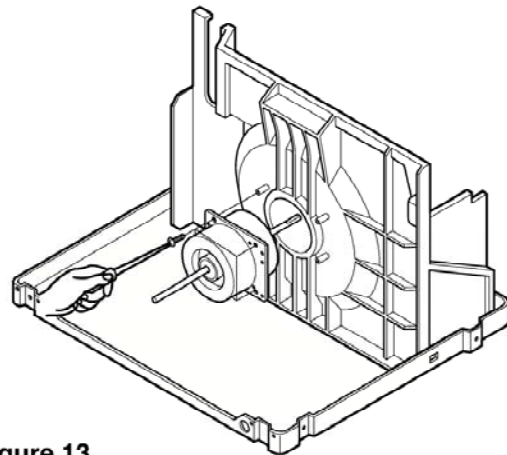

Figure 13
4. Remove the 4 screws which fasten the motor to the air guide. (See Figure 13)
6. Re-install the components by referring to the removal procedure, above. (See Figure 13)